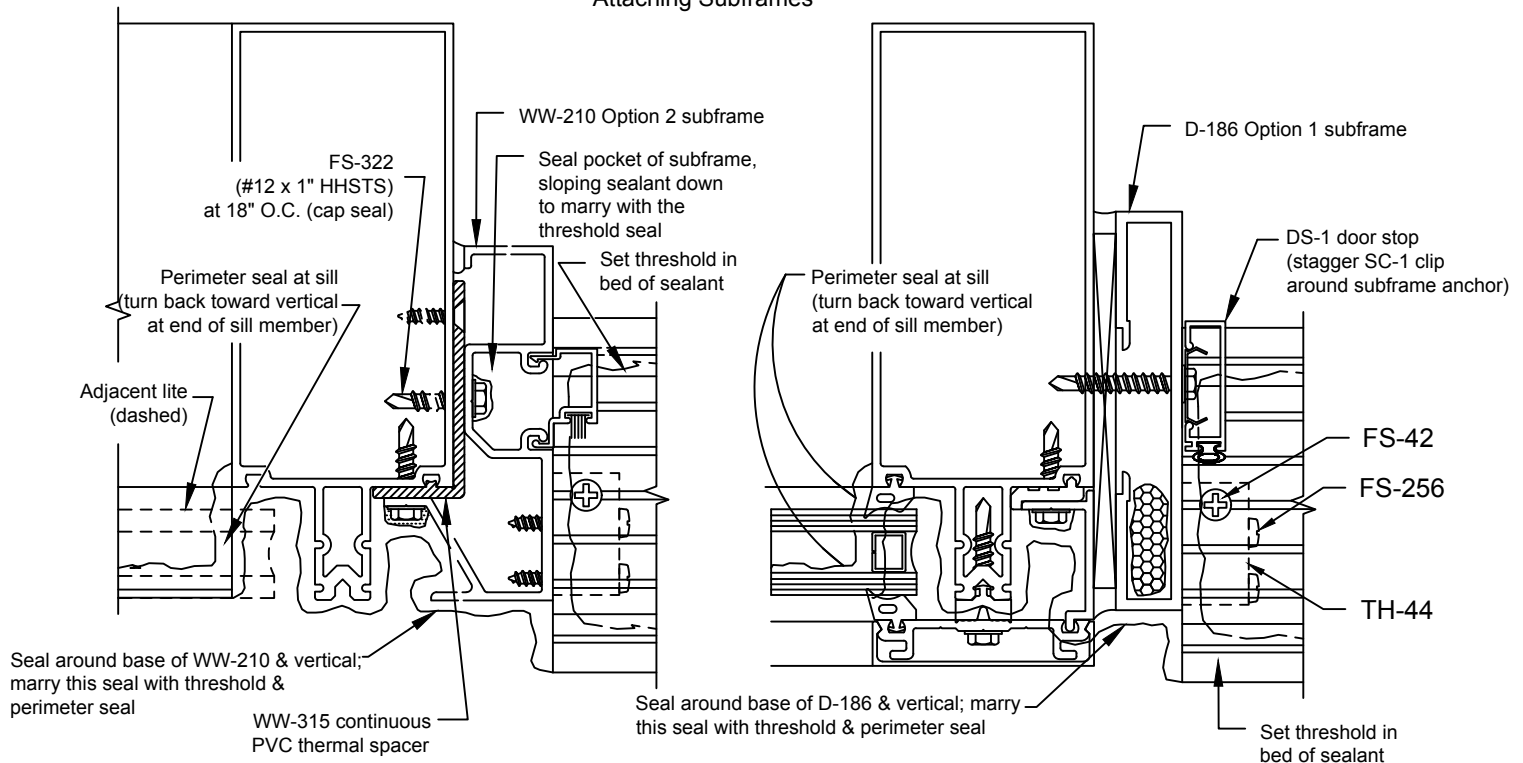

Figure 33
- C.2.4 Bed threshold in sealant, attaching to TH-44 clips with FS-42 #12 x 1/2" Phillips Flat Head screws. Marry threshold seal with subframe and main system seal. SEE FIGURE 33, page 36.